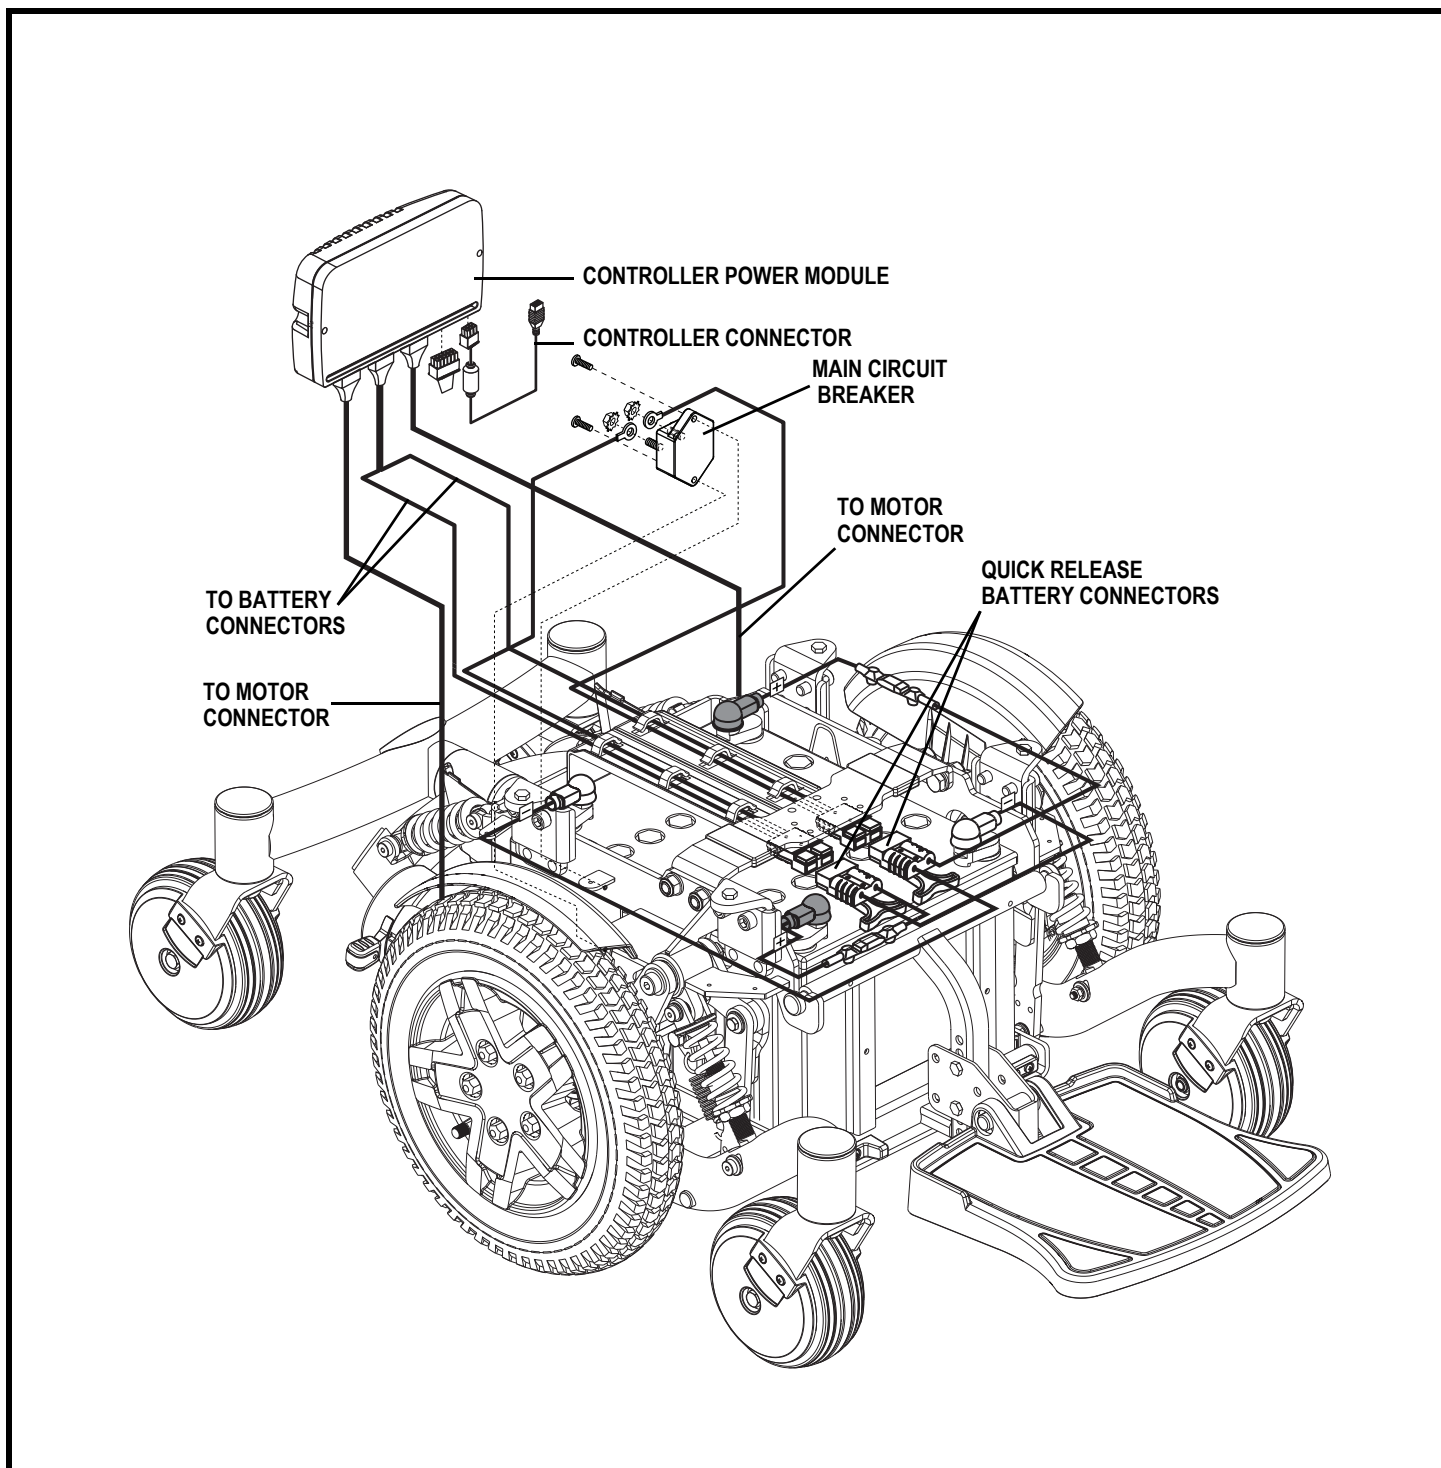

Figure 3. Q6 Series Electrical Components
5. Plug the controller connector into the rear of the power base. See figure 3.
3. Unplug the controller connector(s) from the power base. See figure 3.